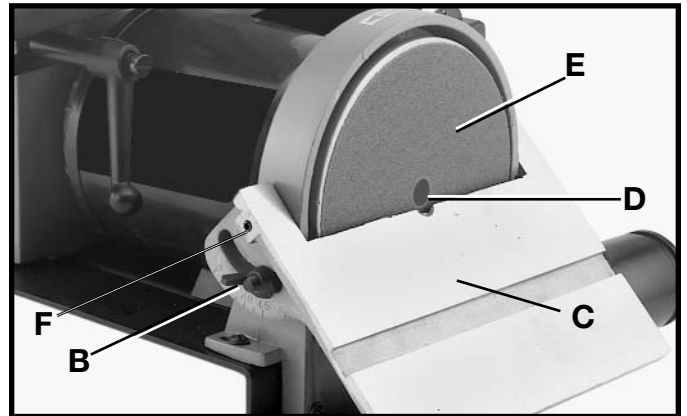

Fig. 21
The disc table (C) can be tilted down 45 degrees (Fig. 21), by loosening the two wing nuts (one of which is shown at (B) Fig. 21). Tilt the table to the desired angle and tighten the two wing nuts.
**NOTE:** The power take-off location is shown at (D) Fig. 21, and can be used with the table in the tilted down position. The accessory flexible shaft can be attached at this location (leaving the abrasive on the sanding disc) by cutting a small hole in the center of the abrasive to provide an entrance for the flexible shaft.
The disc table can be adjusted in or out by loosening the two set screws (F) Fig. 21 (one of which is shown), and adjusting table and retightening the two set screws (F).
**⚠️WARNING:** To avoid trapping the workpiece or your fingers between the table (C) and the sanding disc (D), adjust the table so that there is a maximum 1/16" between the work table and the disc (Fig. 21).